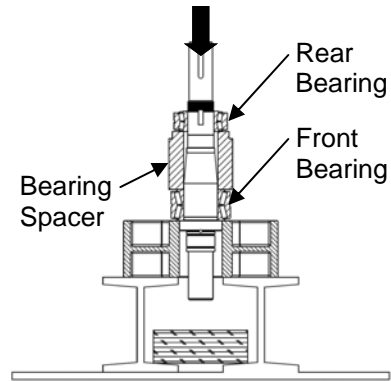

Figure 48: Removing Bearings and Sleeve From Shaft
6) Using a press and a V-block, remove the front and rear bearings along with the bearing spacer. To prevent damage to the shafts make sure that both ends are protected (Figure 48). Reference Table 5 for the required force (in tons) needed to press the bearings off the shafts.